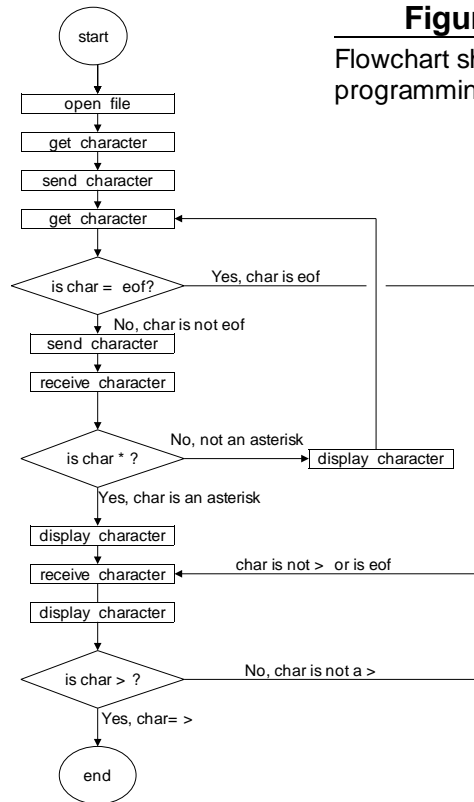

Figure 5.1
1. Software handshake. This is perhaps the easiest method of all. When you begin to send data to be programmed, send the first byte but don't wait for it to be echoed. That would effectively cut your communication rate in half. Instead, send the second byte, receive the first, send the third byte, receive the second, etc. This technique will allow you to program as fast as the algorithm in use permits. Some devices program faster, some slower! See an example of this in Fig. 5.1.